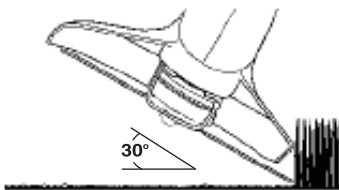

Fig. 12
- Rotate the whole unit so that the cutting head is at a 30° angle to the ground (Fig. 12).